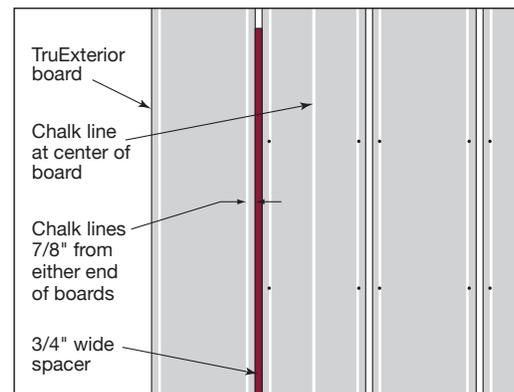

Fig. 30
- Mark the center point of the board at the top and bottom (**Fig. 30**)
- Using the plumb line on the wall, line up the middle of the board with the middle of the wall and secure it with fasteners (**Fig. 30**)
- Use a 3/4" wide spacer between boards as you continue across the wall, checking for plumb along the way (**Fig. 30**)